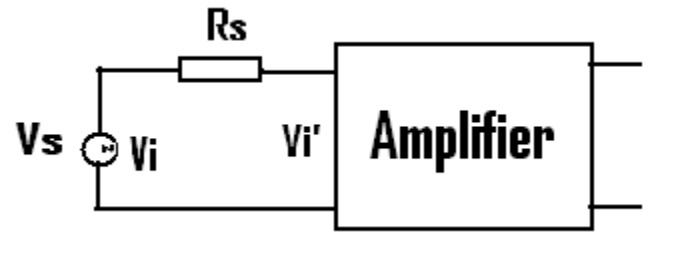

Fig.3.2
- 1) Connect the circuit as shown in Fig 3.2.
- 2) Connect a resistance R_S in series with the input signal and amplifier as shown in the figure 3.2.